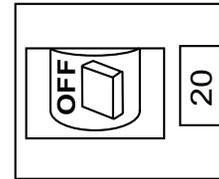

Figure 17. Main Circuit Breaker (OFF)
- Place main circuit breaker (Figure 17) in the **OFF** position.